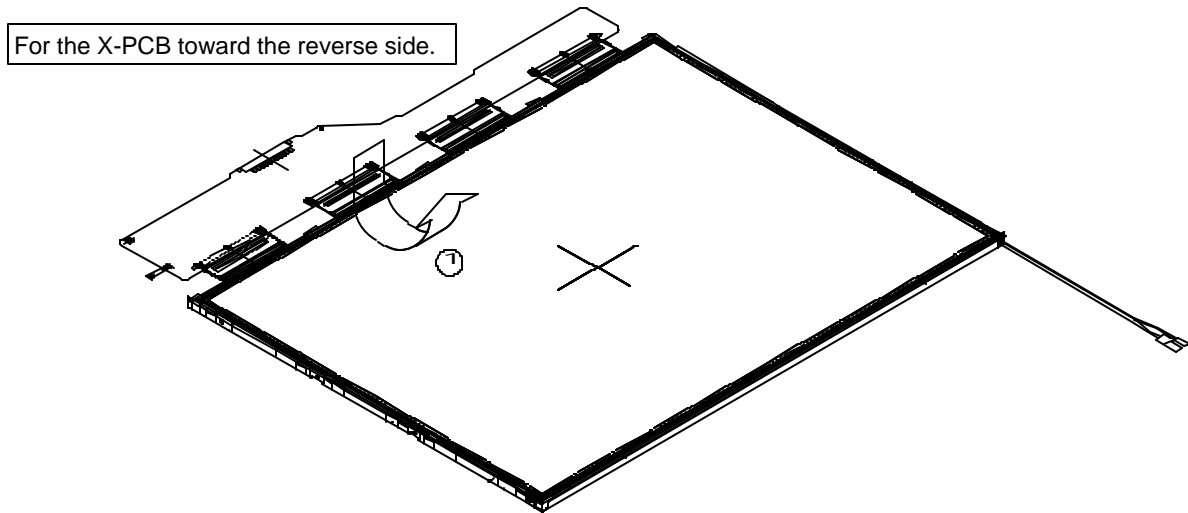

Figure 4-71 Replacing 14 Inch TMD fluorescent lamp (9)
1. Fold down the TAB (PCB) toward the reverse side of the backlight unit, as shown in Figure 4-71.